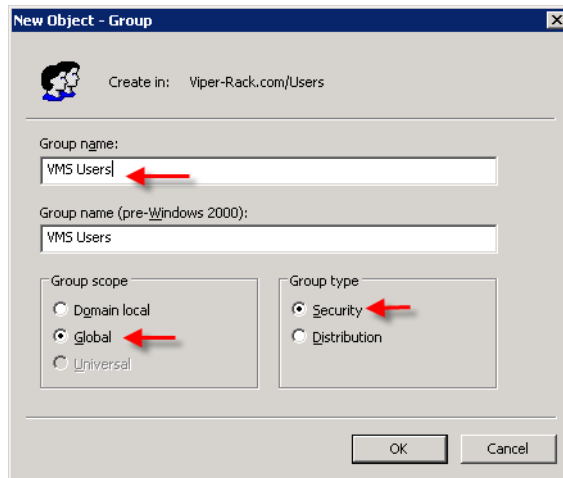

Figure 2-38 Create Group Dialog
- The New Object–Group dialog will open. Under *Group Name*, enter **VMS Users** and ensure that the *Group Scope* and *Group Type* are set as shown in figure 2-38.